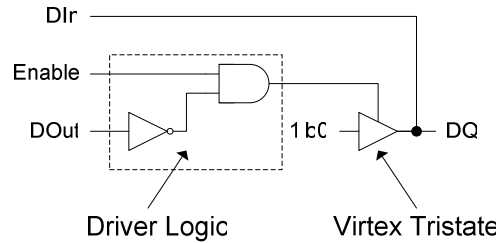

Figure 2: Virtex Open-Collector Driver
To implement this bus on the Xilinx chips, you will be using the tristate drivers built into the Virtex chips. **Shown in figure 2 below is the exact circuit you will need to implement in order to connect the N64 controller.** The entire circuit can be implemented using a **single assign statement**, if you keep in mind that **1'bZ is the verilog notation for tristating a wire**.
- **The bus is bidirectional**, the schematic for the driver you will need to build is shown in figure 2 (see 2.1 Bidirectional Serial Protocols).